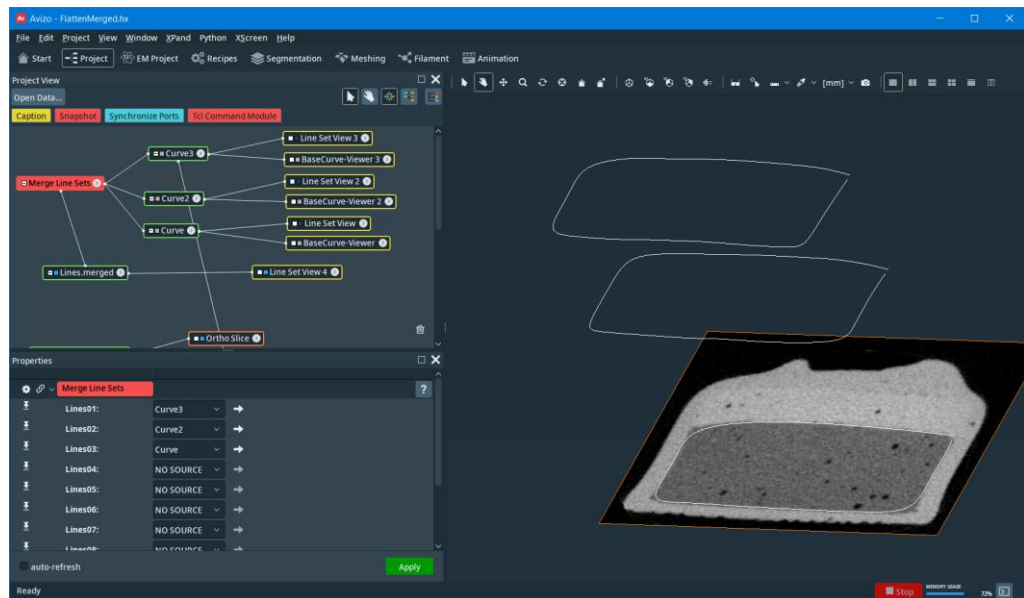

Figure 14
2. In the Properties of this module select the above created curves Curve3, Curve2 and Curve as inputs for ports Lines01, Lines02 and Lines03. The Merge Line Sets module allow to merge curves also with line sets. In case of more than 10 contours you can merge them over and over by using several “Merge Lines Set” in cascade. Figure 14 show the result of the Merge Line Sets “Lines.merged” by mean of a “Line Set View4” module. The project FlattenMerged.hx contains the project at the end of the merged of the three contours.